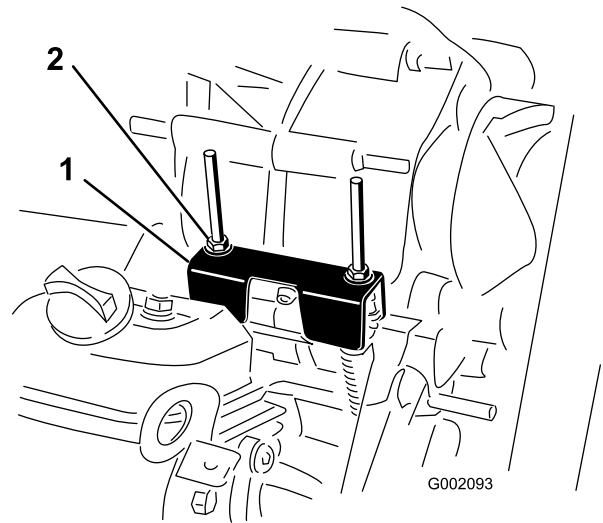

Figure 51
When performing routine maintenance and/or engine diagnostics, the transaxle must be shifted into neutral (Figure 51). The vehicle has a neutral position on the shift lever, which controls the neutral in the transaxle. The following steps should be taken to make sure that the neutral shift lever operates the transaxle neutral correctly:
2. Ensure that the neutral bracket is in the neutral position (level to the cable mounting bracket located below the shift bracket) by turning the driven clutch (Figure 51).
3. Rotate one of the locknuts (Figure 51) to achieve a 0.762 to 1.524 mm (0.030 to 0.060 inch) gap between the bottom of the nut/washer and the neutral bracket.